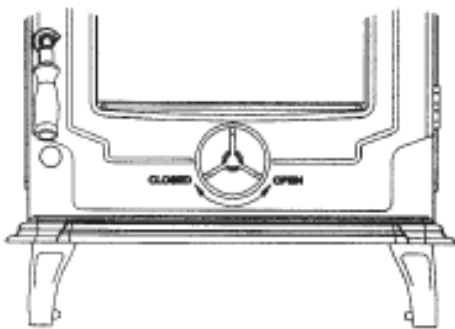

Figure 1
2. Open the primary air inlet by turning the spin valve at the front of the stove anticlockwise (see Figure 1).